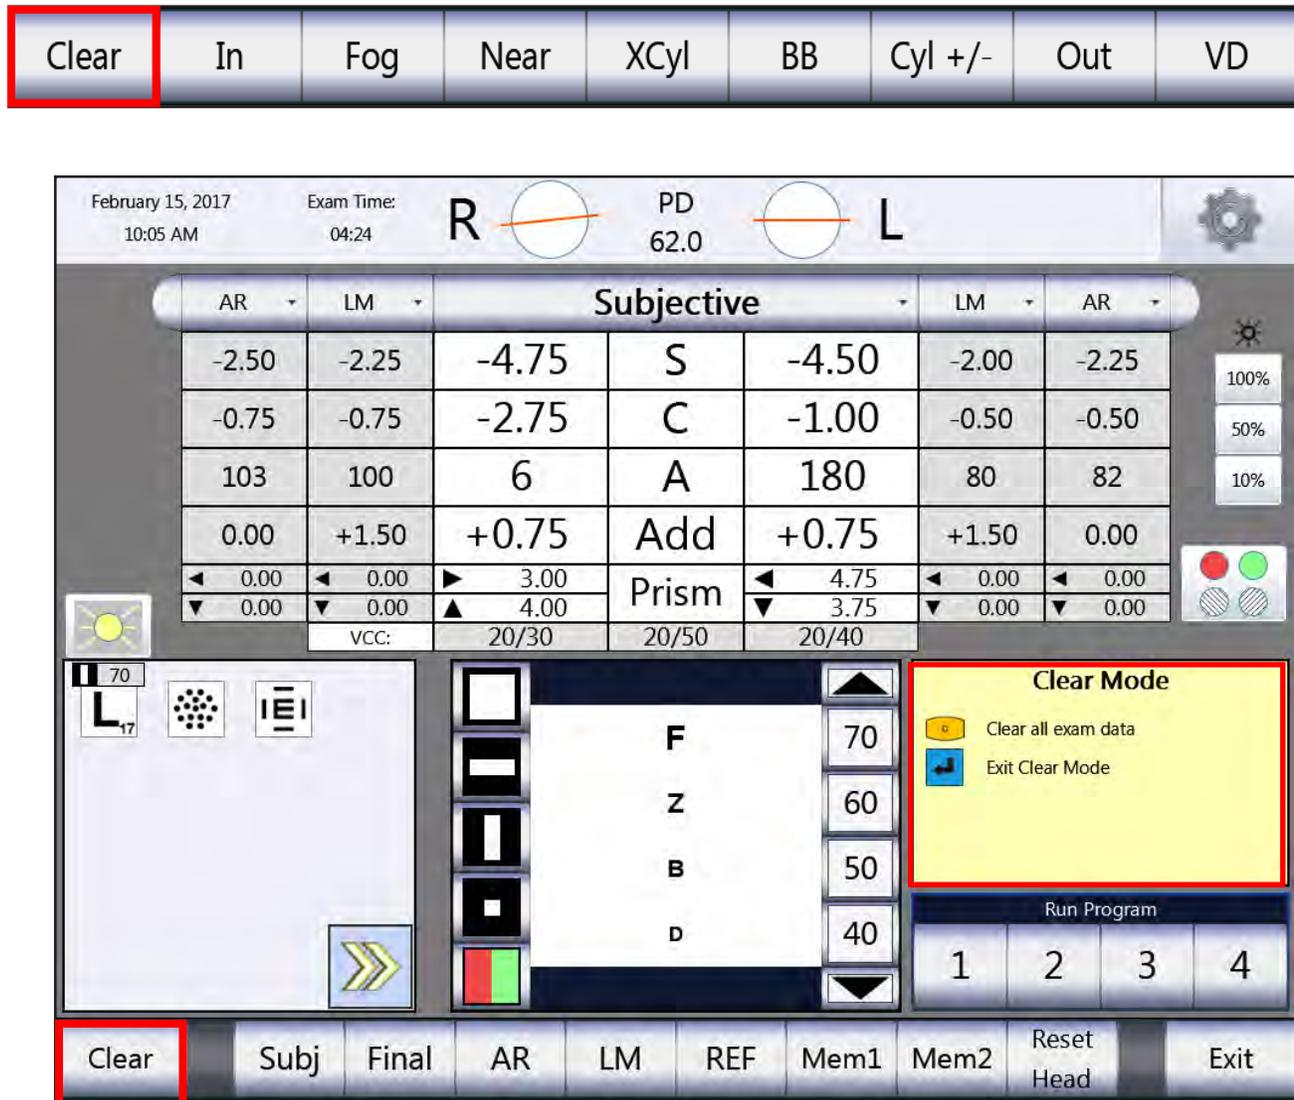

Figure IU-47, Clearing Data
1. Press the **C** button, or touch **CLEAR**. (Please refer to Figure IU-47.)